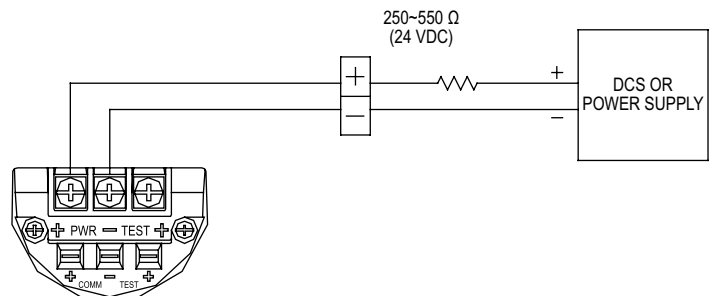

Figure 4-2: Wiring the 3200 pressure transmitter
4. Close the transmitter cover. To meet the explosion-proof ratings make sure the covers are fully engaged. **Note:** Do not power the transmitter with high voltage (AC). It can damage the transmitter.
5. You must connect a 250~550 Ω Resistor in Current Loop (between Power Supply and Transmitter) for HART® Communication. See **Figure 4-2**.